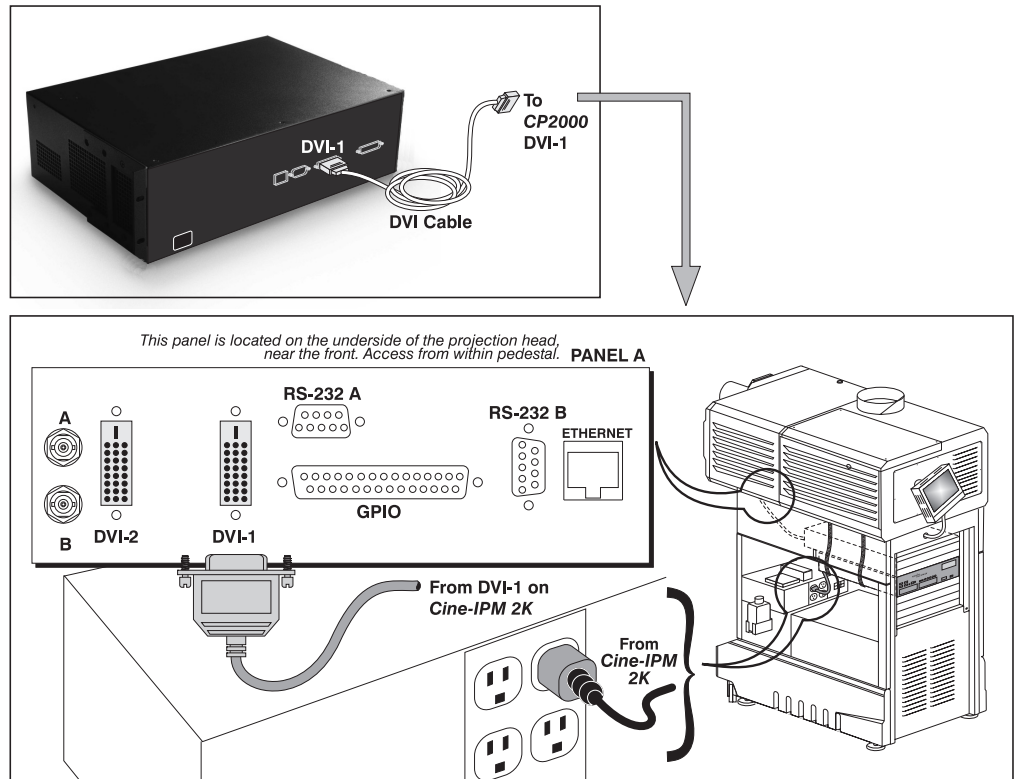

Figure 2.4. Standard DVI Connection for 8-bit Output on the CP2000
TO PROJECTOR: Connect a DVI cable between the **DVI-1** port on the *Cine-IPM 2K* rear panel and the **DVI-1** port on the *CP2000*. See Figure 2.4.
2. Connect the other end to the **RS232 B** port on the CP2000. Refer back to Figure 2.4.
Connect the *Cine-IPM 2K* power cord to the convenience outlet within the pedestal (refer back to Figure 2.4), or to an external supply as desired. See *Specifications* for power requirements.